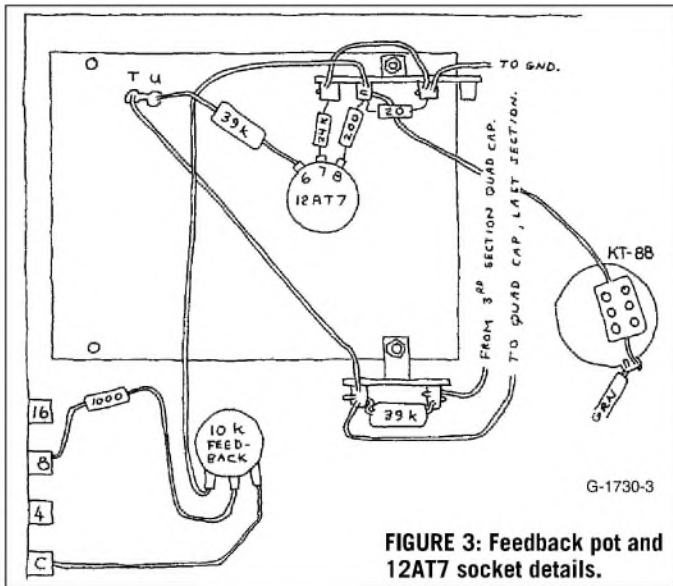

FIGURE 3: Feedback pot and 12AT7 socket details.
8. Mount a three- or four-terminal tag strip on the same screw that secures the corner of the board where it says "Dynaco." Mount the components for the 12AT7 (*Fig. 3* and *Photo 3*). I placed the 11.2Ω cathode resistor between the